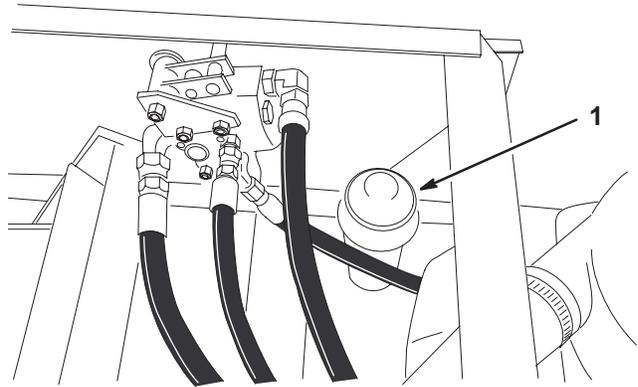

Figure 35
3. Remove dipstick cap from filler neck (Fig. 35) and wipe it with a clean rag. Insert dipstick cap onto filler neck; then remove it and check level of oil.
5. Install dipstick filler cap onto filler neck (Fig. 35).